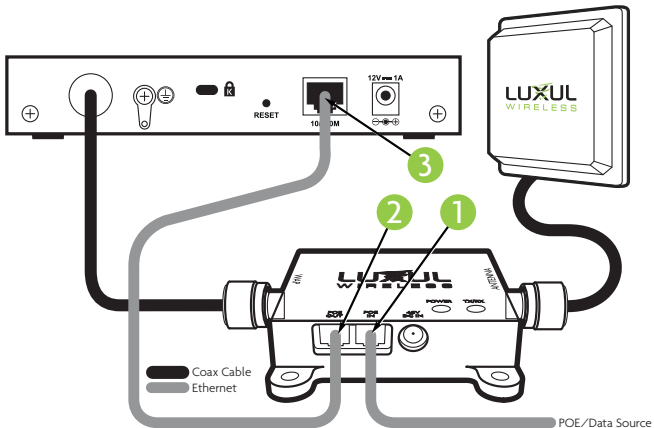

Figure 5
Connect your Ethernet cable from your POE/Data Source to the “POE IN” port of the Wi-Fi Signal Booster (Figure 5) ❶. Connect the included Ethernet cable from the “POE OUT” (Figure 5) ❷ of the Wi-Fi Signal Booster to the “10/100M” port of your Netgear AP (Figure 5) ❸, (See AP’s documentation). Be sure all cables are connected securely and power up your POE injector. You may now power your POE injector.